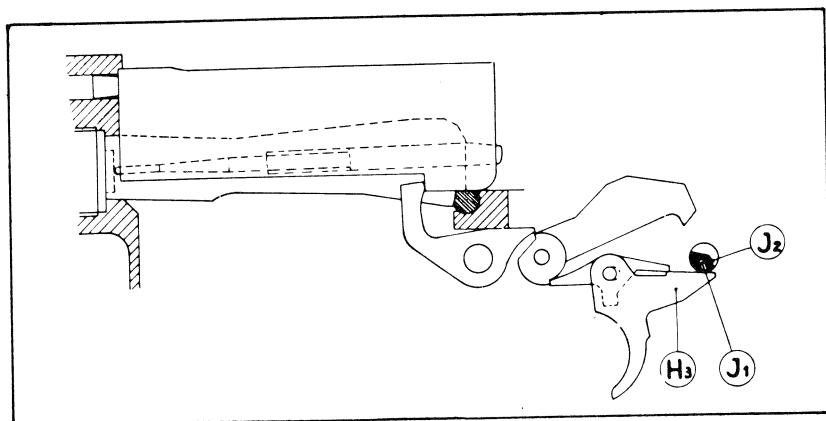

Fig. 14
- The change lever axle has in the rear (H3) of the trigger a rounded part (J1) (fig. 14); in this position the stud of the change lever axle locks the trigger mechanically, avoiding any possibility of accidental discharge.